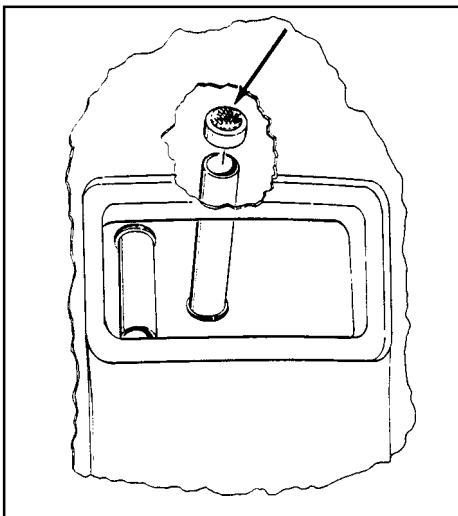

Figure 4
9. Remove any lint on the vacuum intake screen. The screen is located behind the recovery lid and on the end of the stand pipe. (See Figure 4)